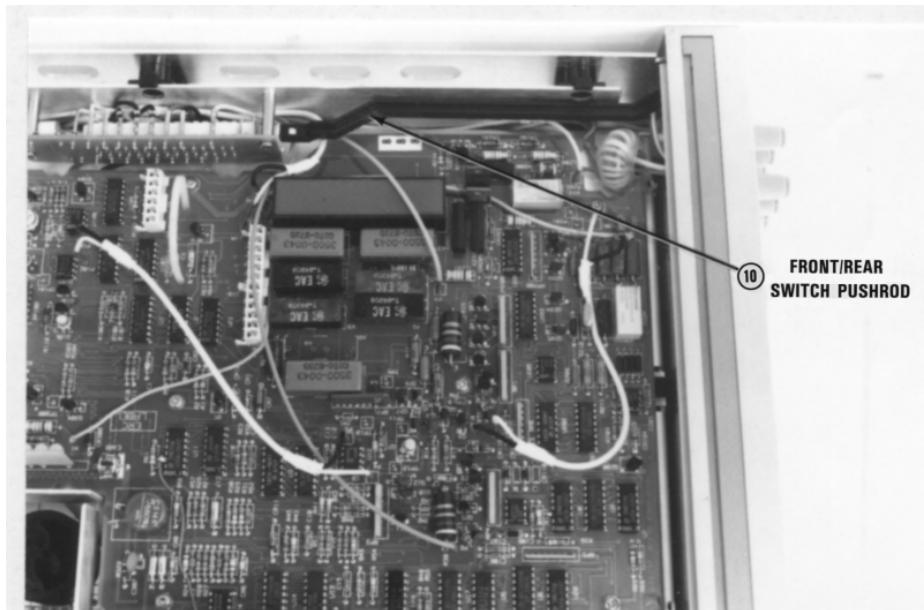

Figure C-8 Front/rear terminal switch and pushrod location
- 3 Refer to Figure C-8. Locate the pushrod for the Front/Rear Terminal switch. Pull the pushrod off. You may need to pry the pushrod loose with a small flat blade screwdriver. Set the switch in the position it is to be used.